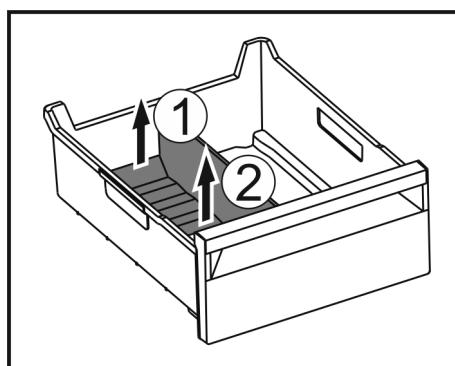

Fig. 163
- ▶ 提升冰格分隔器后部。Fig. 163 (1)
- ▶ 向上取出冰格分隔器。Fig. 163 (2)